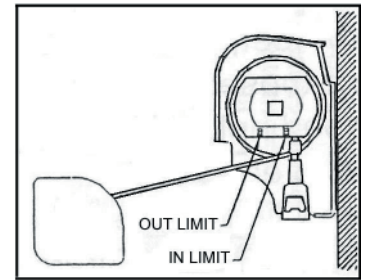

Fig. 1 Motors with Black Plastic Casings
4. The IN limit is the BLACK arrow. To make the awning close MORE, first turn the main awning wall switch or Wind Sensor switch to the IN (retract) position. At the motor, insert the tool and turn the switch next to the BLACK arrow in the direction of the (+) sign.  $\frac{1}{4}$  turn represents approximately 1” of the awning movement. This action will create a tighter fit as the awning box closes. To make it close LESS, turn in the direction of the (-) sign. See Fig. 1.
The OUT limit is the RED arrow. To make the awning extend MORE and release more fabric, first turn the main awning wall switch or the Wind Sensor switch to the OUT (extend) position and extend the awning to its maximum position. Proceed by turning the limit switch next to the RED arrow in the direction of the (+) sign. To make the awning extend LESS, turn the switch in the (-) direction. See Fig. 1.